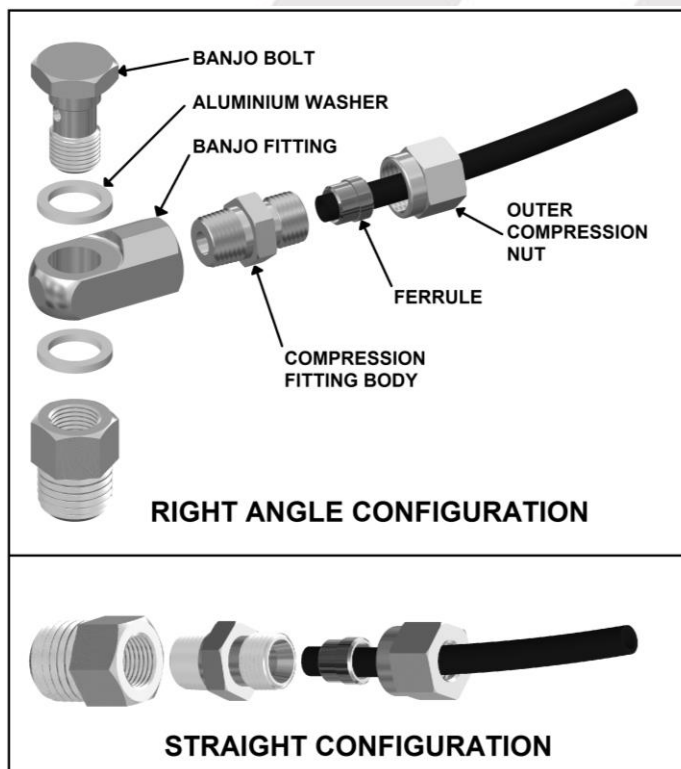

Figure 16.
- Assemble an aluminium washer onto the banjo bolt and insert through the banjo fitting. Assemble second aluminium washer and tighten into bulkhead fitting using a 14mm [9/16"] spanner. (Fig.16.)
- Insert the outer compression nut and ferrule over the air line. Ferrule should be orientated as per Fig.16.
NOTE : When right angle routing of the tube is not required, screw the compression fitting body straight into the bulkhead fitting body (Fig.16.).